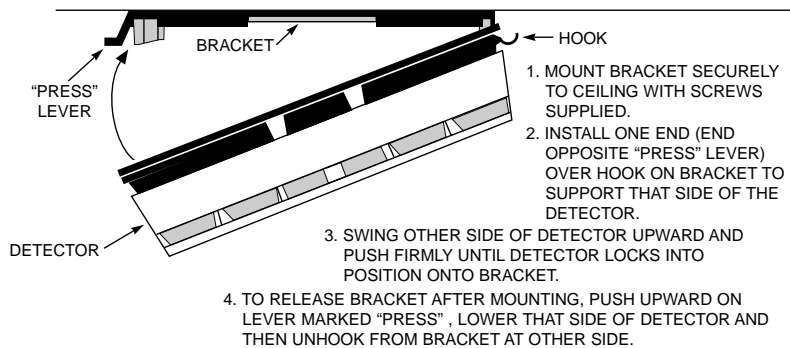

Figure 4. Mounting the Smoke Detector
3. Install the detector (with batteries installed) onto the bracket as follows, referring to Figure 4: Hook the detector over the loop at one end of the bracket, then swing the detector gently upward toward the release tab at the other side of the bracket until the detector snaps into the locked position. Test the detector immediately after completing the installation.